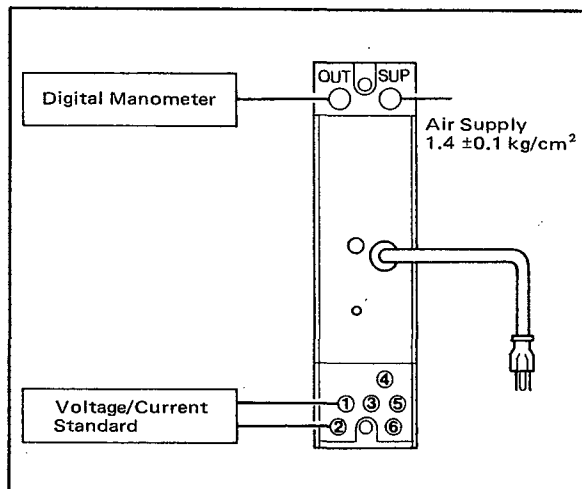

Figure 6-1. Calibration of mV DC and 1 to 5 V DC Input Converter.
- (1) Check that the burnout selector switch on the range card is set to the normal operating position (except 1 to 5 V DC input version).
- (2) Connect the test equipment as illustrated in Figure 6-1 through 6-4, and turn the power switch ON and warm up the converter for at least five minutes.